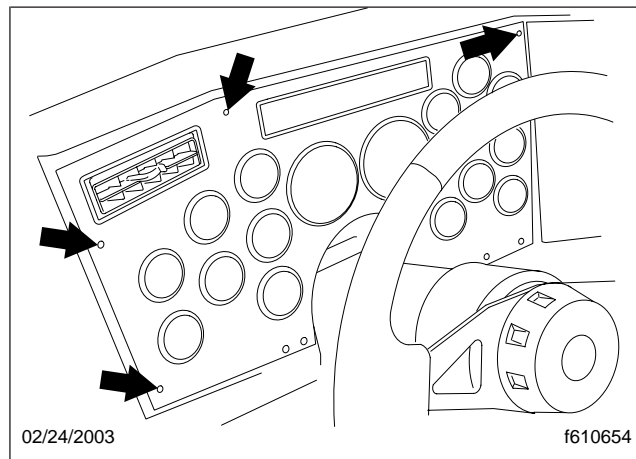

Fig. 1, Main Instrument Dash Panel Fasteners
2. Open the main instrument dash panel by removing the four fasteners. See Fig. 1. Tip the instrument panel forward to access the rear of the gauges.